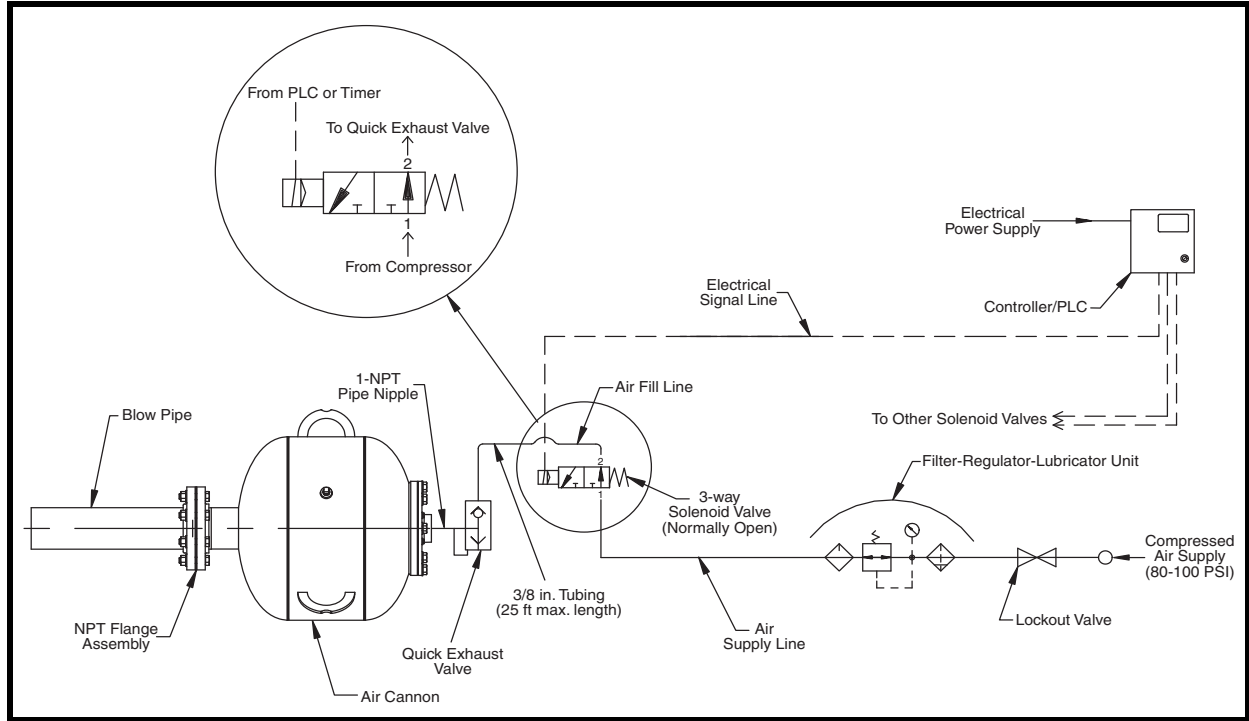

Figure 16. Solenoid Enclosure Piping
1. Refer to Figure 16 and follow steps 1 through 4 under “Installing manual valves and electrical solenoid valves.”